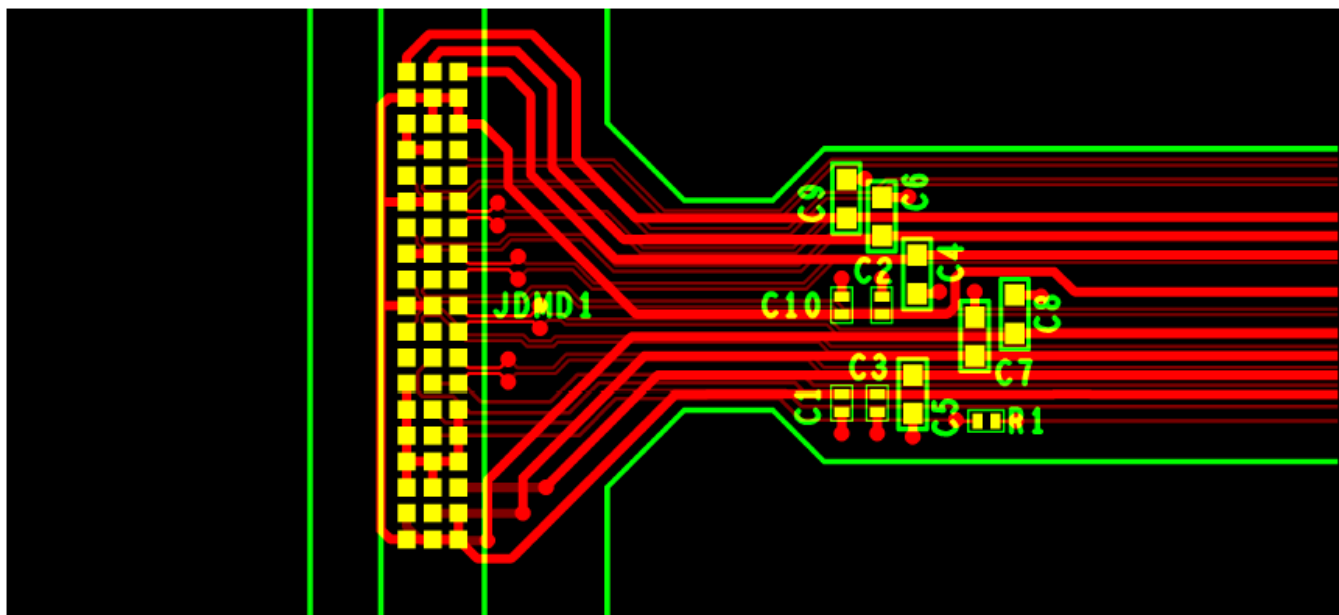

Figure 24. Power Supply Connections
- Minimize vias, layer changes, and turns for the HS bus signals. Refer Figure 24.
- Minimum of two 220-nF decoupling capacitor close to VBIAS. Capacitor C3 and C10 in Figure 24.
- Minimum of two 220-nF decoupling capacitor close to VRST. Capacitor C1 and C9 in Figure 24.
- Minimum of two 220-nF decoupling capacitor close to VOFS. Capacitor C2 and C8 in Figure 24.
- Minimum of four 220-nF decoupling capacitor close to VDDI and VDD. Capacitor C4, C5, C6 and C7 in Figure 24.